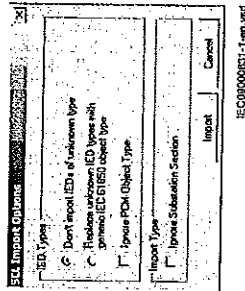

Figure 68: IEC 61850: Import SCD file
4. A *SCL Import Options* window opens, which queries how the file should be handled during import, see Figure 68.